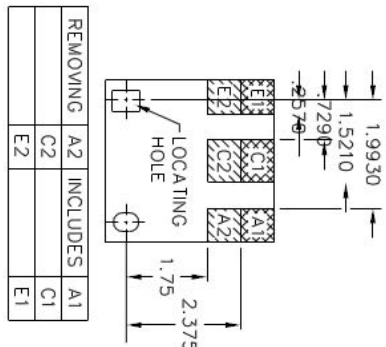

FIGURE 2
2. REMOVE MATERIAL PER TABLE AND FIGURE 2 OR 3 AND ADD PROTECTIVE FINISH.